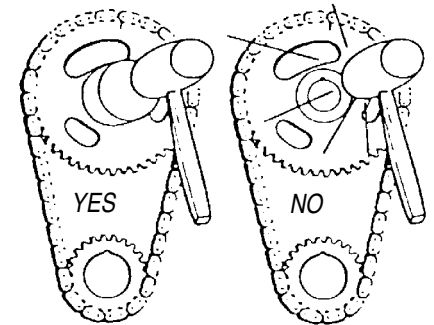

Figure 1 - Use a sleeve to install press-fit sprockets
- USE A SLEEVE** for installations that require hammering (see Fig. 1). A brass drift punch may be used if you carefully alternate blows on either side of the sprocket to avoid cocking.